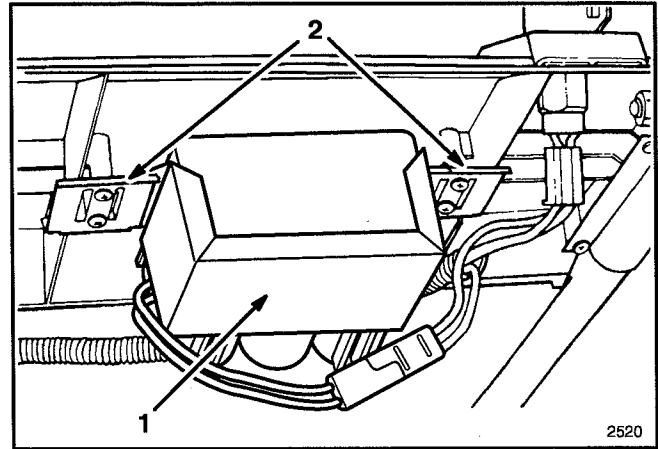

Figure 6
1. Refer to Charging Battery, page 16. Slide battery, decal side up, between mounting tabs on back of control panel and connect wires (Fig. 6). Insert key into switch when ready to start engine.